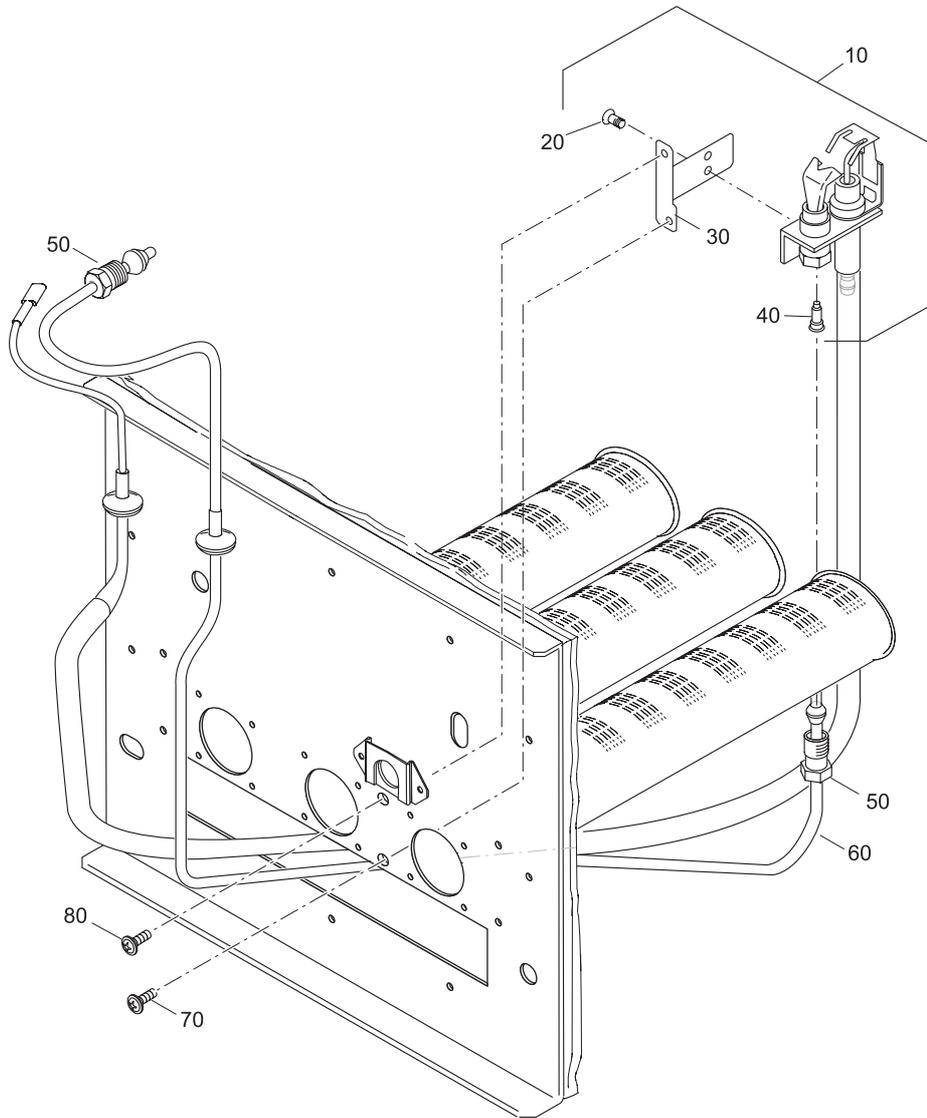

Fig. 62 Ignition burner
**Ignition burner (→ Fig. 62)**